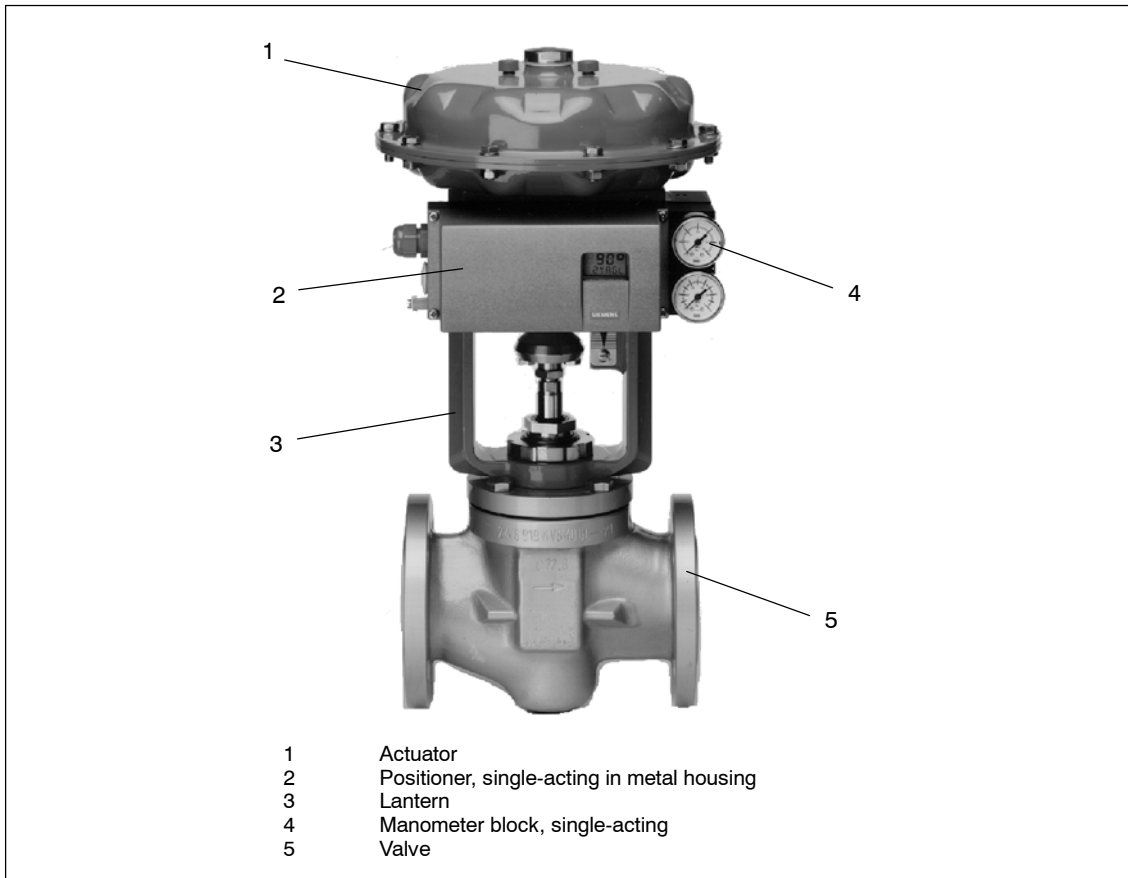

Figure 1-1 Positioner mounted on **linear actuator** (single-acting)
- with linear actuator (figure 1-1, page 15) or